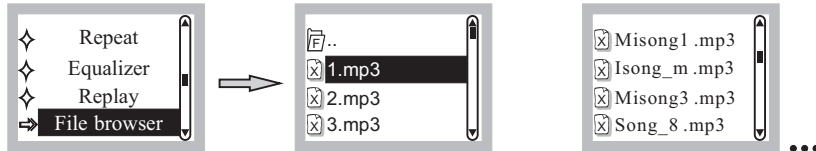

Fig. 15
- (I) File Browser Mode: Press PLAY/PAUSE to enter track directory. Press PRV/TEN or NEXT/TEN to select the desired song. Press PLAY/PAUSE to play the song tracks, Fig. 15.